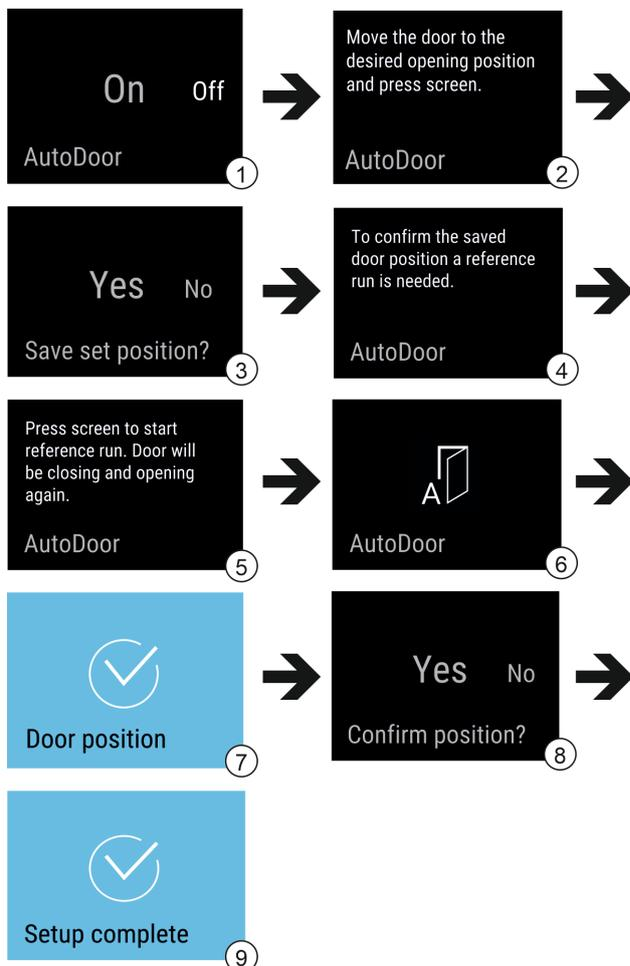

Fig. 13 Example displays in English
- ▶ To activate AutoDoor: Swipe On in the display. Fig. 13 (1)
- ▶ Press the display for 3 seconds. Fig. 13 (1)
- ▶ To configure the door opening angle: Open the door to at least 70°. Fig. 13 (2)
- ▶ To confirm the door opening angle: Tap the message in the display. Fig. 13 (3)
- ▶ To start the reference run: Tap the display. Fig. 13 (5)
- ▷ The display flashes. Fig. 13 (6)
- ▷ The reference run is successful: The display turns blue for 2 seconds. Fig. 13 (7)
- ▶ Confirm the door opening angle. Fig. 13 (8)
- ▷ The display turns blue. Fig. 13 (9)